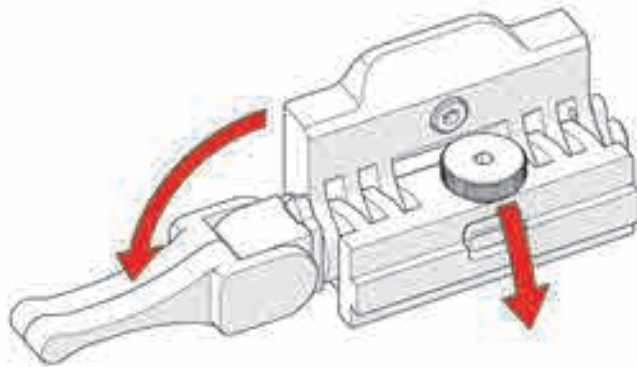

Figure 4-104 Angle pivot nose down
3. Release the side lever of the raster arm pivot nose (male) and angle the raster arm pivot nose downward (see Figure 4-104 on page 168).